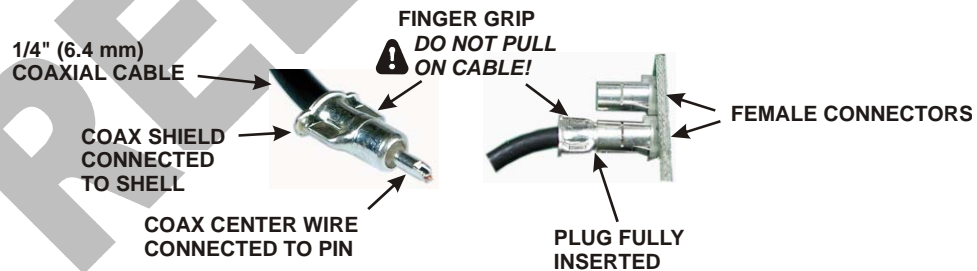

Figure 53. TMP Cable Connectors.
☐ Locate the three TMP cables. They are 1/4" (6.4mm) diameter coaxial cables with connectors at each end as shown in Figure 53.
□ Install the three TMP cables between connectors on the KREF3 board, the main RF board and the KSYN3 board as follows. Handle the connectors by the finger-grip area shown in Figure 53, especially if you unplug a connector. **Do not pull on the coaxial cable to unplug a connector!** When mating the connectors, be sure the plugs are fully inserted as shown in Figure 53. To make the connectors easier to mate, first be sure the center pin is started in the socket, then you may twist the connector back and forth while holding it by the metal ears if needed to seat it fully as shown in Figure 53.